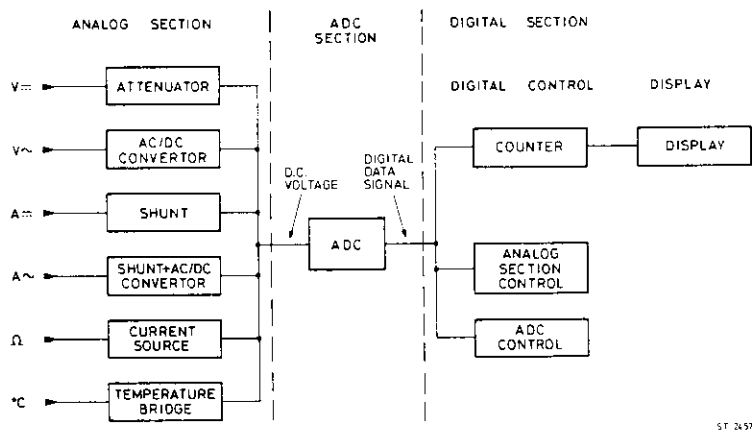

Fig. 11.
3.3.1. General (Fig. 11)
The PM2517 is built up of the analog, ADC and digital section. All input signals are converted into a d.c. voltage signal. The d.c. voltage signal is supplied to the ADC and converted into a digital signal. In the digital section the digital signal from the ADC is used to control the analog section and ADC and to supply the counting results to the display (Fig. 11).
In the detailed circuit description the sections will be described separately in the order as shown in figure 11.